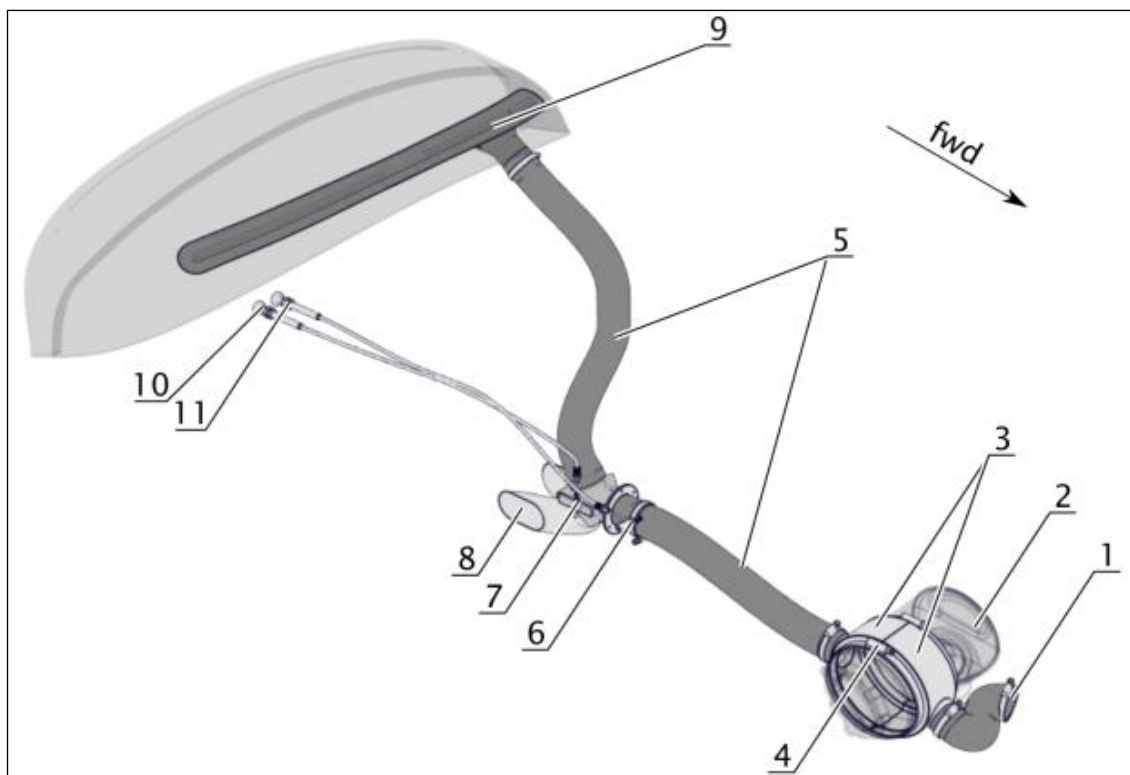

Fig. 3 *Heating System*
Cockpit heating is ensured by hot air from the heat exchanger (see Fig. 3). The heat exchanger (3) is located on the muffler (2). Ambient inlet air (1) taken by the muffler is heated in the heat exchanger and supplied through heating flap (6) located on the firewall into the cockpit by air hose (2). Quantity of hot air is regulated by CabinHeat knob (11) on the instrument panel. Behind the firewall a up/down mixture flap (7) is located, which splits hot air flow into the canopy bubble outlet (9) and into the crew legs outlet (8). The mixture flap is controlled by the UP/DOWN knob (10).